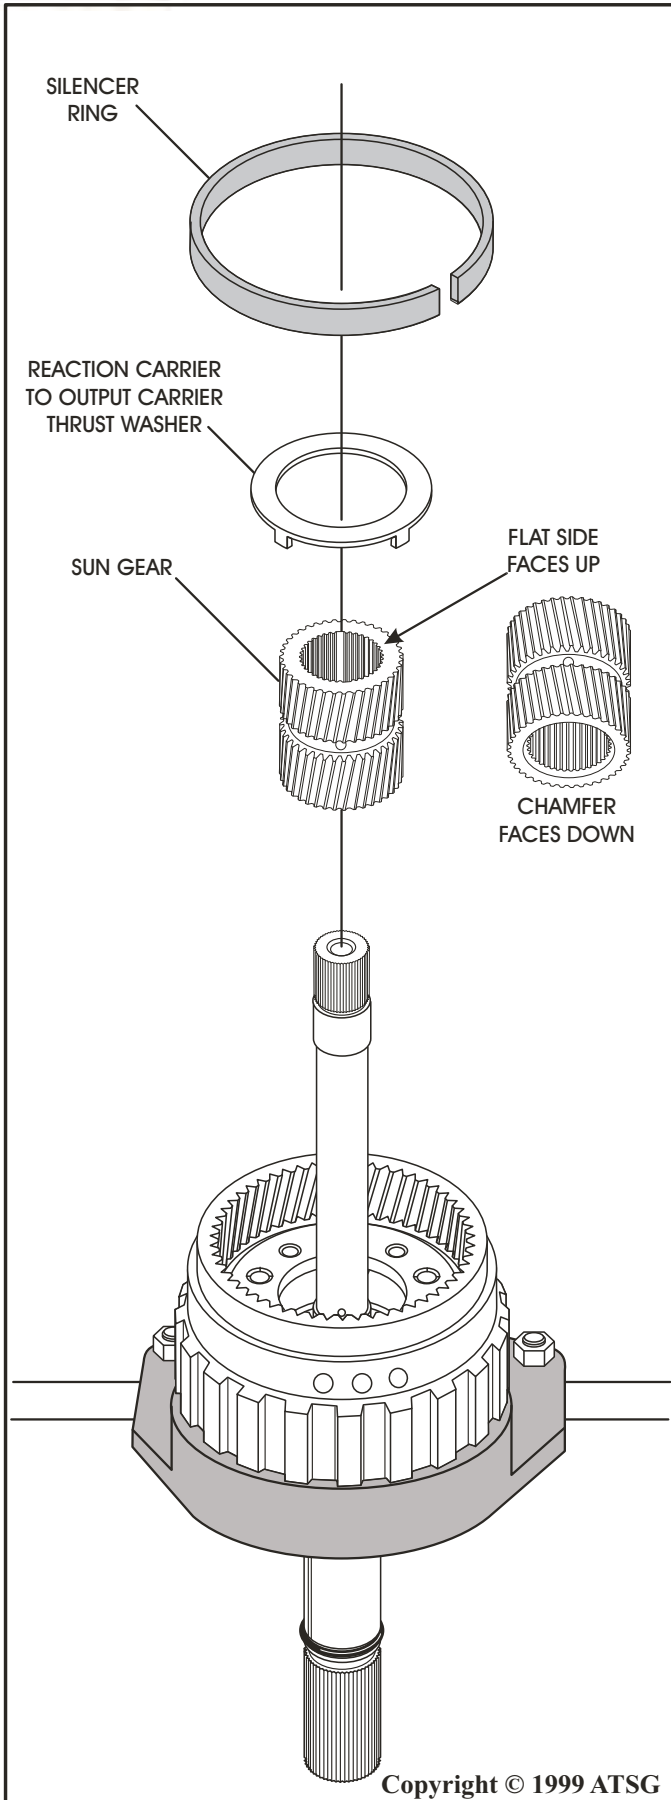

Figure 64
22. Install the sun gear over the main shaft and into the output carrier by rotating into position, with inside chamfer *down* as shown in Figure 64.
23. Install the reaction carrier to output carrier thrust washer, ensuring that the tabs engage in the holes in output carrier, and retain with a small amount of TransJel[®] (See Figure 64).
24. Install the silencing ring over the top side of the output carrier. Refer to Figures 64 and 65.